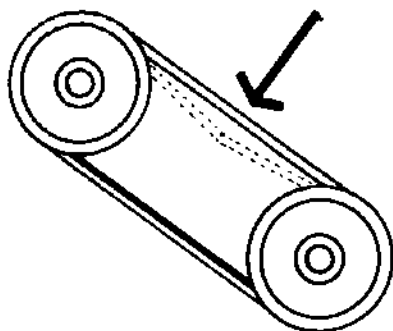

FIG. 11
Tighten belt (B) by turning Hex Nut (E) on Pump Mounting Plate (F) clockwise to sufficiently drive pump with no slippage. The Belt is properly tightened when the Belt "gives" about $\frac{1}{2}$ " to $\frac{3}{4}$ ". (See Fig. 11) Replace Belt Guard (A).